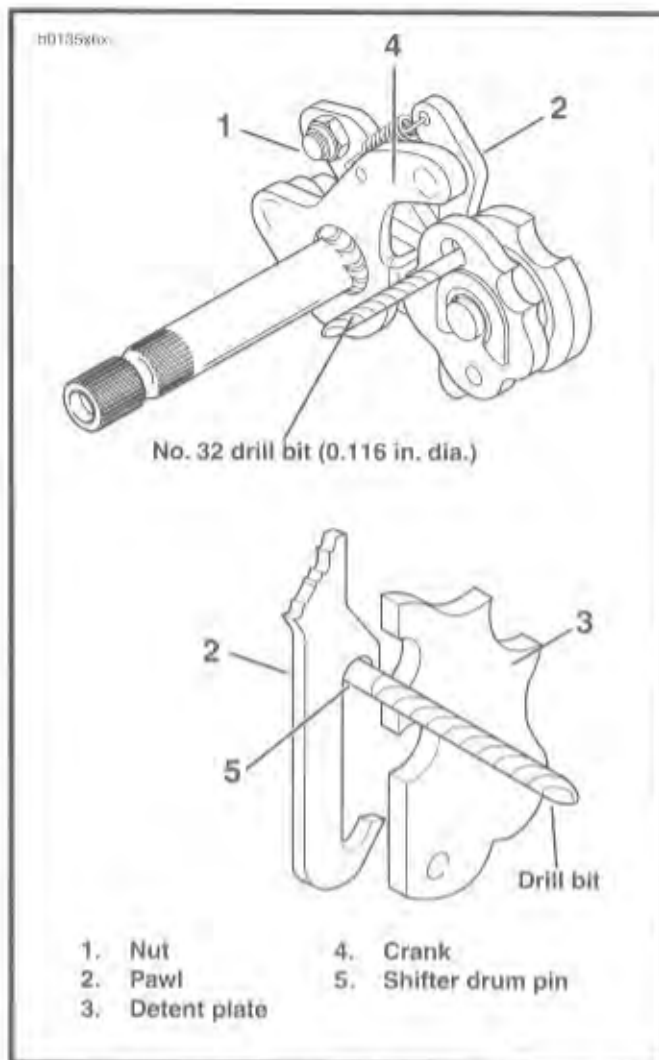

Figure 6-52. Shifter Shaft Assembly Alignment
3. Lift pawl (5) over drum pins, and place shifter shaft assembly (6) on studs at transmission case. Loosely install a washer (11) and locknut (3) on each stud.
4. Attach the loop of spring (1) over and into groove in post (2).
5. Place detent plate (9) over drum pins. Rotate plate until blind holes in plate align with pins in end of drum shaft. Install new retaining ring (10) using TRANSMISSION SNAP RING TOOL (Part No. HD-39151). Verify that retaining ring is fully engaged with drum groove.
6. See Figure 6-52. Place transmission in third gear. Place a No. 32 drill bit (0.116 in. dia.) through hole in detent plate (3), and between pawl (2) and drive pin at end of shifter drum shaft. Push down top of crank (4) to remove all clearance between pawl and drill bit; this will correctly align pawl to shift drum pins (do not push down with too great a force, as this might cause the shifter drum to rotate). With bit in place, tighten shifter shaft assembly bottom nut (1) first to 90-110 in-lbs (10.2-12.4 Nm) torque. Then, tighten shifter shaft assembly top nut (1) to the same torque. **Remove drill bit.**